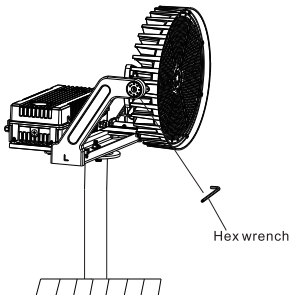

Figure 8
- 2. Use hex wrench to loosen the adjusting screw for adjusting the angle (Figure 8);